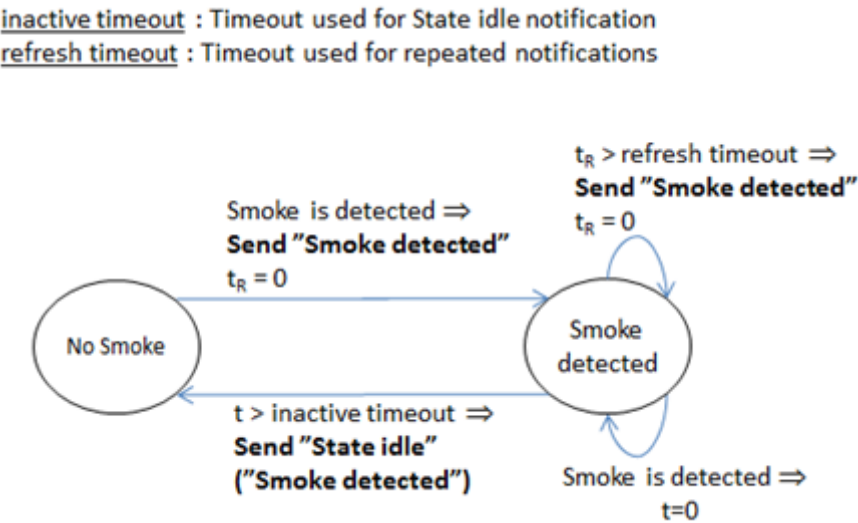
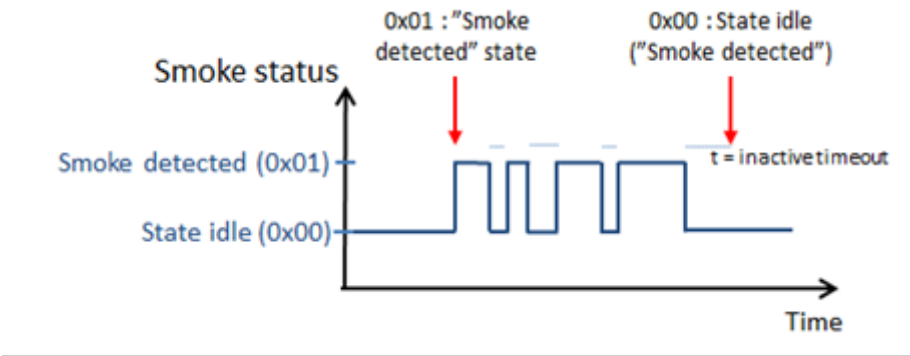

Figure 2.22: Recommended timer mechanism for sending notifications (1)
Figure 2.23: Recommended timer mechanism for sending notifications (2)
- Certain sensors may trigger repeatedly within a short amount of time. It is RECOMMENDED to implement timers to arbitrate the transmission of notifications. Illustrations are given in Figure 2.22 and Figure 2.23.